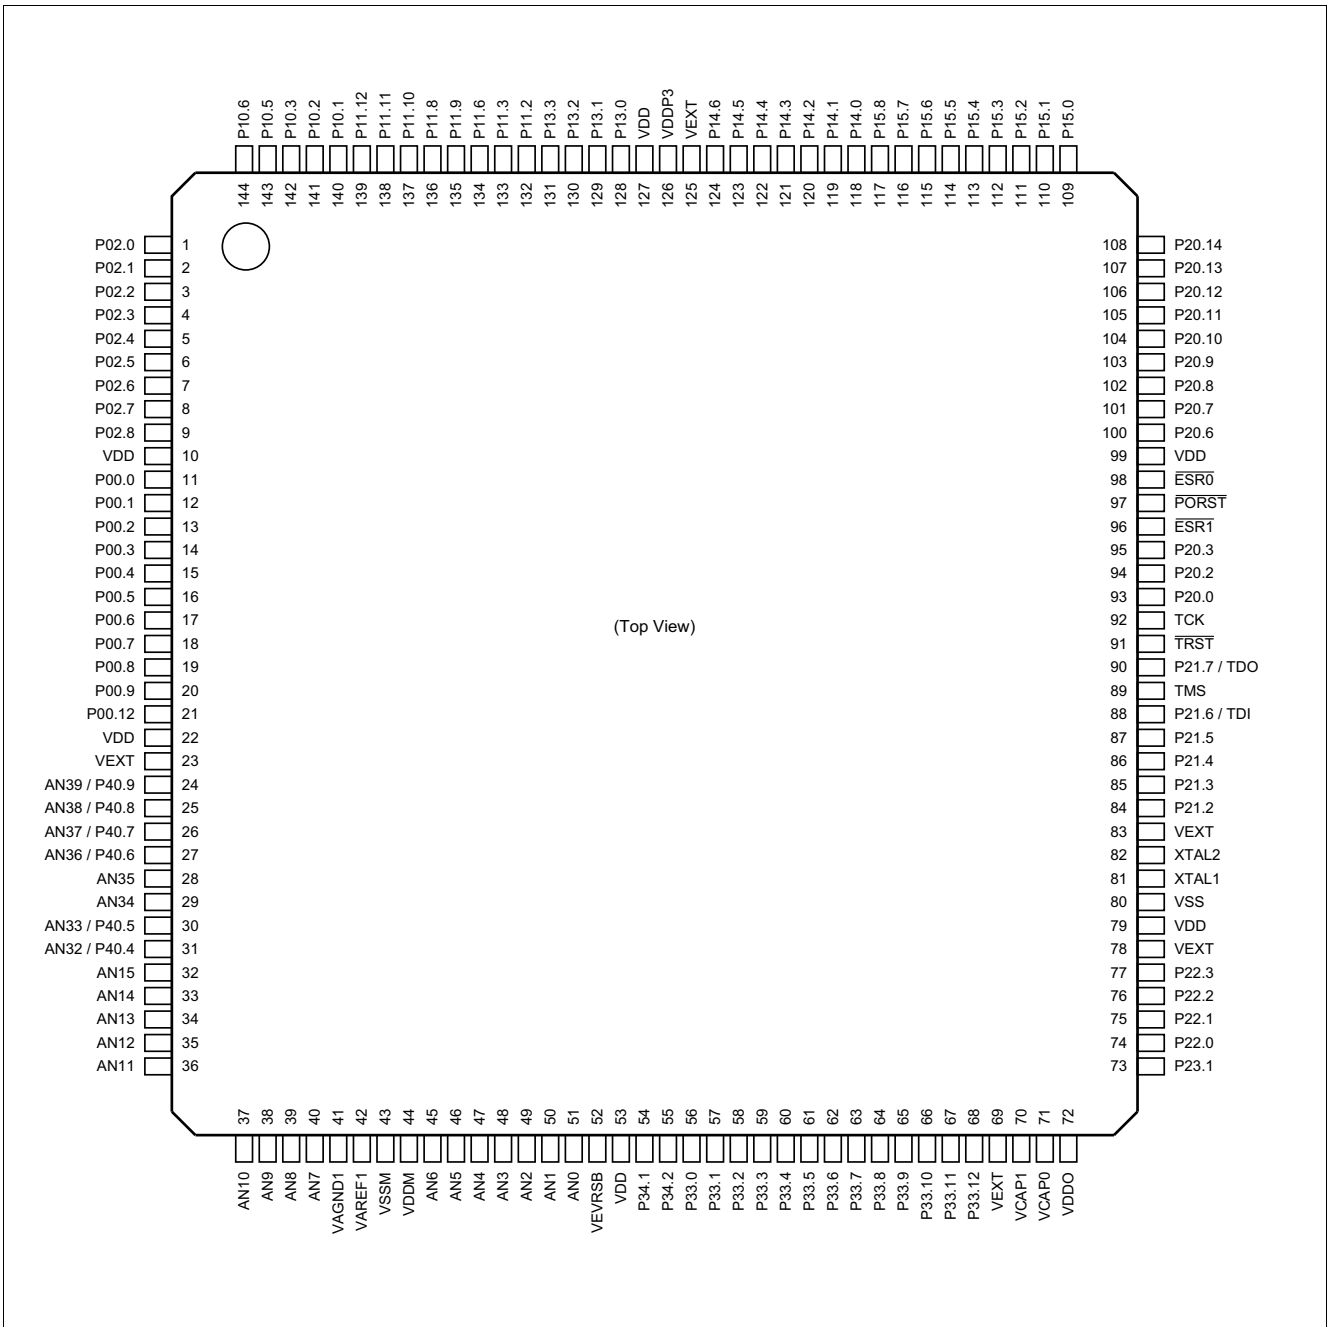

Figure 2-3 TC33x/TC32x Logic Symbol for the package variant TQFP-144 for feature package L and LP
- TQFP-144 for feature package L and LP (Figure 2-3)